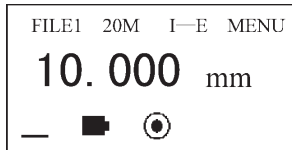

Figure 18
- f. Press CAL to finish single point calibration, as in figure 18